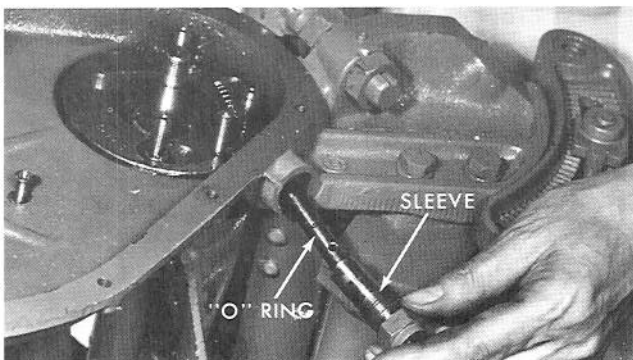

Figure 31
**NOTE:** When replacing "O" ring, sleeve must be removed (Fig. 31). Throwout sleeve need only be loosened for removal of ratchet gear ring.